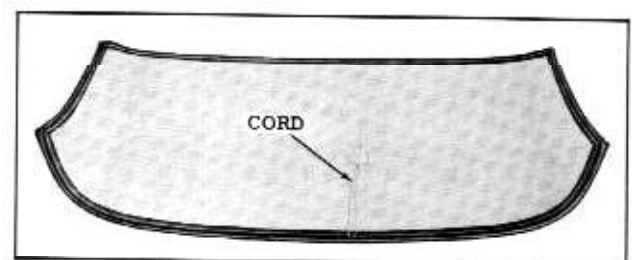

Fig. 15-9 Windshield Installation
4. Insert a strong cord in pinchweld cavity of rubber channel completely around windshield. Tie ends of cord and tape to inside surface of glass at bottom center of glass. (Fig. 15-9)